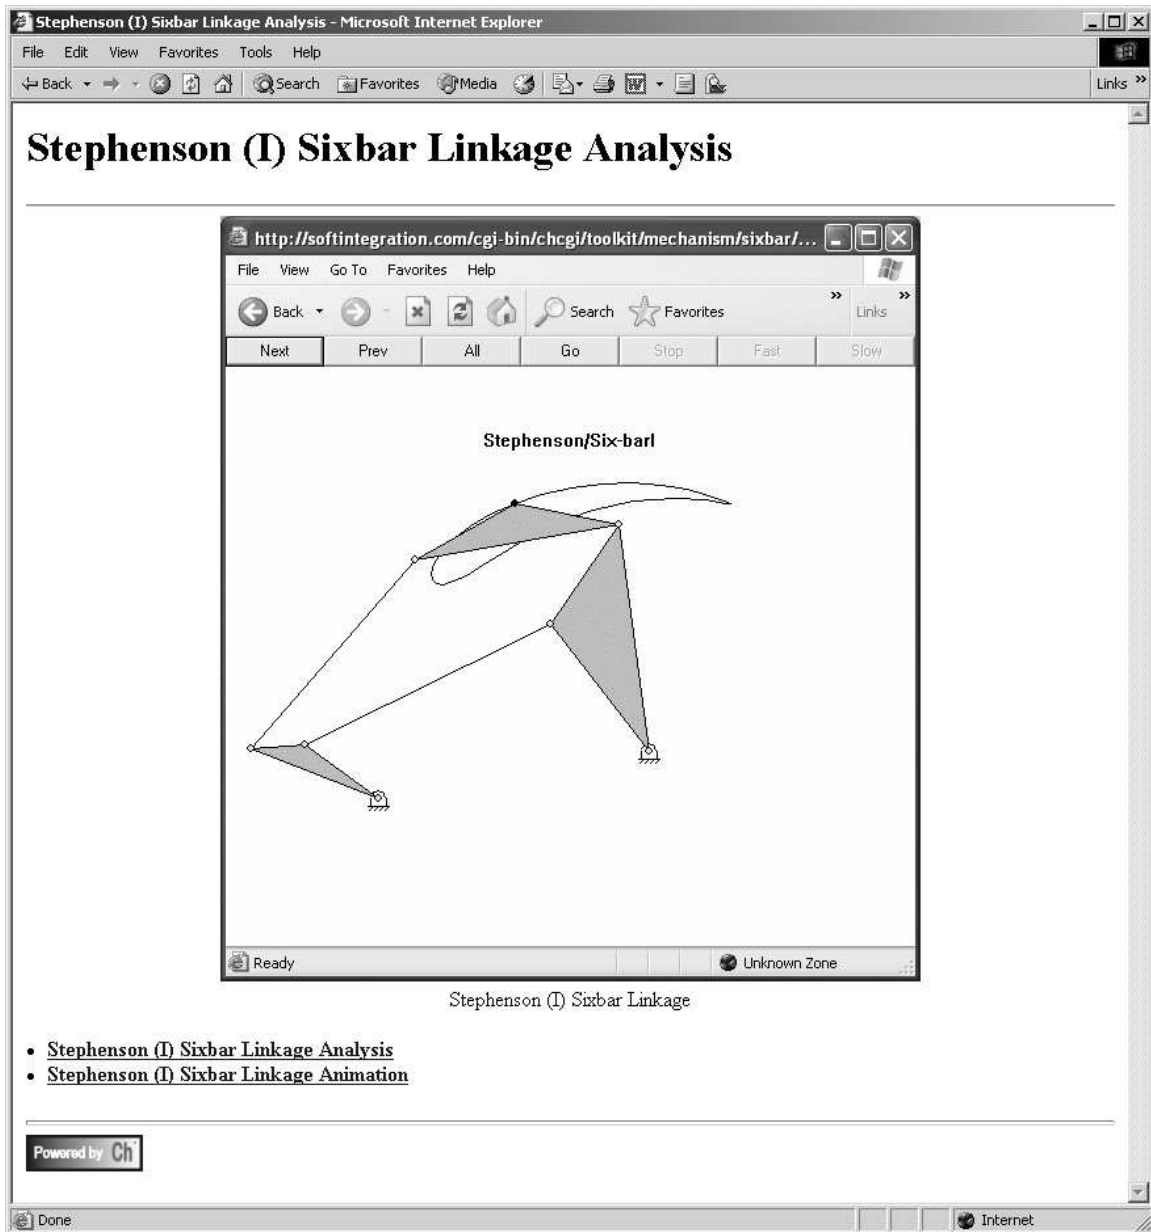

Figure 5.23: Main web page for the Stephenson (I) sixbar.
Analysis of the Stephenson (I) sixbar linkage can also be performed through the world wide web. Figure 5.23 is the main web page for analyzing the Stephenson (I) sixbar. Figure 5.24 shows the internet web page used for kinematic analysis of the sixbar mechanism discussed in this section. Figure 5.25 shows the result of using the web page of Figure 5.24 to analyze the Stephenson (I) sixbar linkage defined in the problems above.